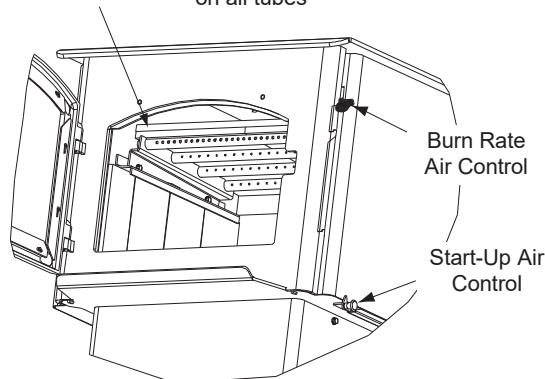

Figure 15.1
1. Confirm the baffle is correctly positioned. It should be even with the front tube and resting on all tubes (**Figure 15.1 and 15.2**).